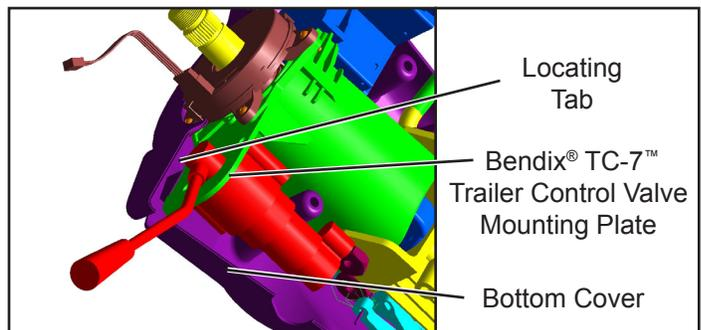

Figure 18 Bottom Cover Installation
13. Reinstall the column cover halves, starting with the bottom cover. Secure the wire harness and clip to the cover before installation. Align the steering column screw hole of the bottom cover with the steering column hole. As shown in Figure 18, the locating tab inside the cover rests against the Bendix® TC-7™ trailer control valve mounting plate when properly positioned. Install the column screw and torque to 20–40 in-lbs.